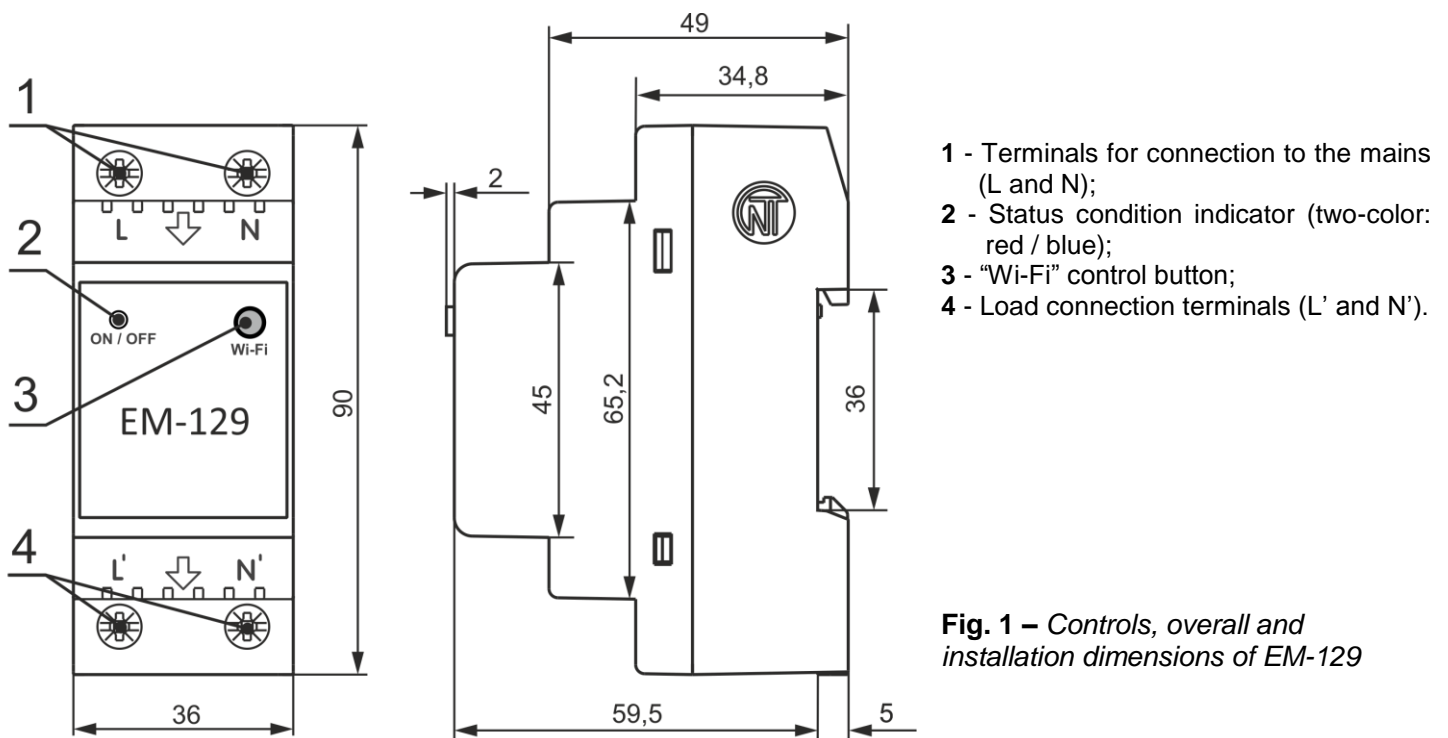

Fig. 1 – Controls, overall and installation dimensions of EM-129
Controls, overall and mounting dimensions of EM-129 are shown in Fig. 1.
Dimensions	See Fig.1
3.2.3 Close the circuit breaker. In this case, the status indicator (Figure 1, pos. 2) will begin to flash in blue.